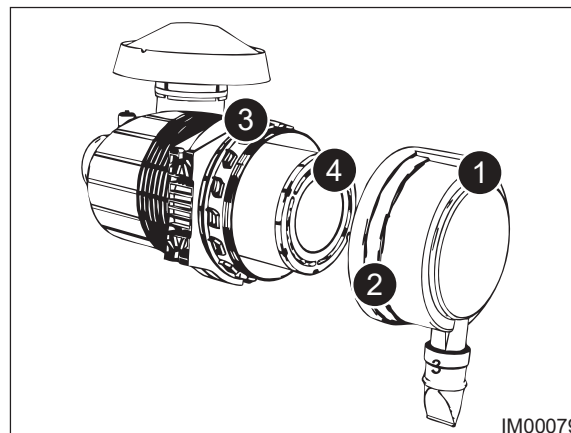

Fig: 11.17 - Air Cleaner
3. On the Air Cleaner (Fig: 11.17), depress the button (Item 1) and rotate cover (Item 2) Counter-Clockwise. Remove Cover (Item 2) from Main Body of air cleaner (Item 3). Ensure that the inner of cover (Item 2) is clean and free from dirt.
4. Remove old air Filter Element (Item 4, Fig: 11.17) and discard.
5. Ensure that the inner of the Main Body of the air cleaner (Item 3, Fig: 11.17) is clean and free from dirt.
6. On the air cleaner (Fig: 11.17), install the new Air Filter Element (Item 4) into the main body of the air cleaner (Item 3). Align the cover (Item 2) to main body of air cleaner (Item 3) and turn cover Clockwise (Item 2) until the cover locks into position.